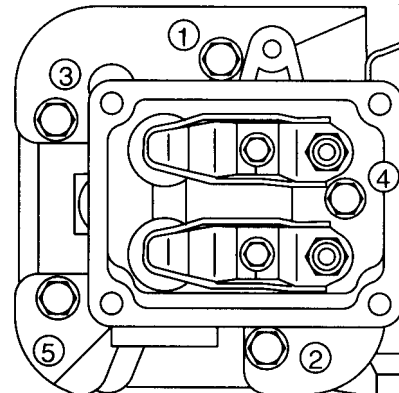

Fig. 15 - Install Cylinder Head
2. Install cylinder head assembly, Fig. 15.